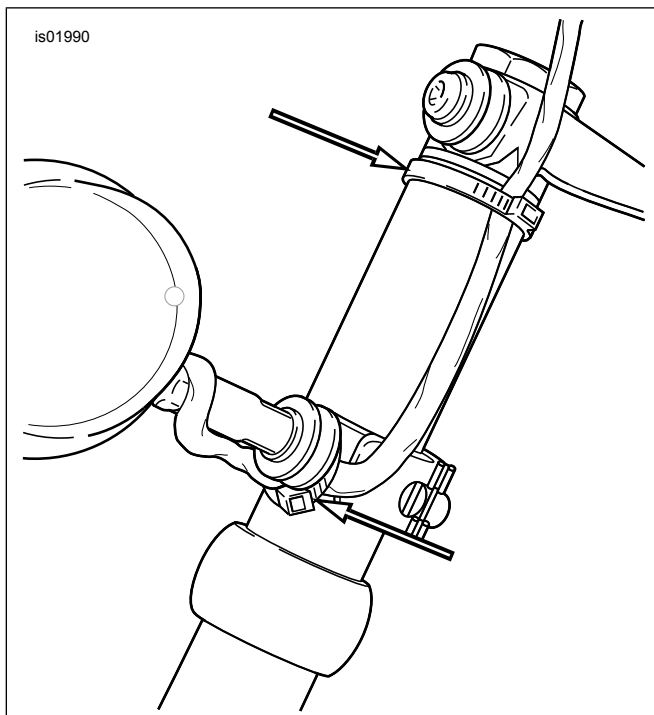

Figure 4. Cable Ties and Turn Signal Wire Routing
12. See Figure 4. Remove windshield by grabbing windshield edges parallel with center brace and firmly pulling windshield loose from upper bushing grooves. Lift windshield assembly off of lower bushings. With windshield removed, and using cable straps in kit, securely route turn signal wires. After wires are secured, check turn signal wire clearance with the windshield installed.